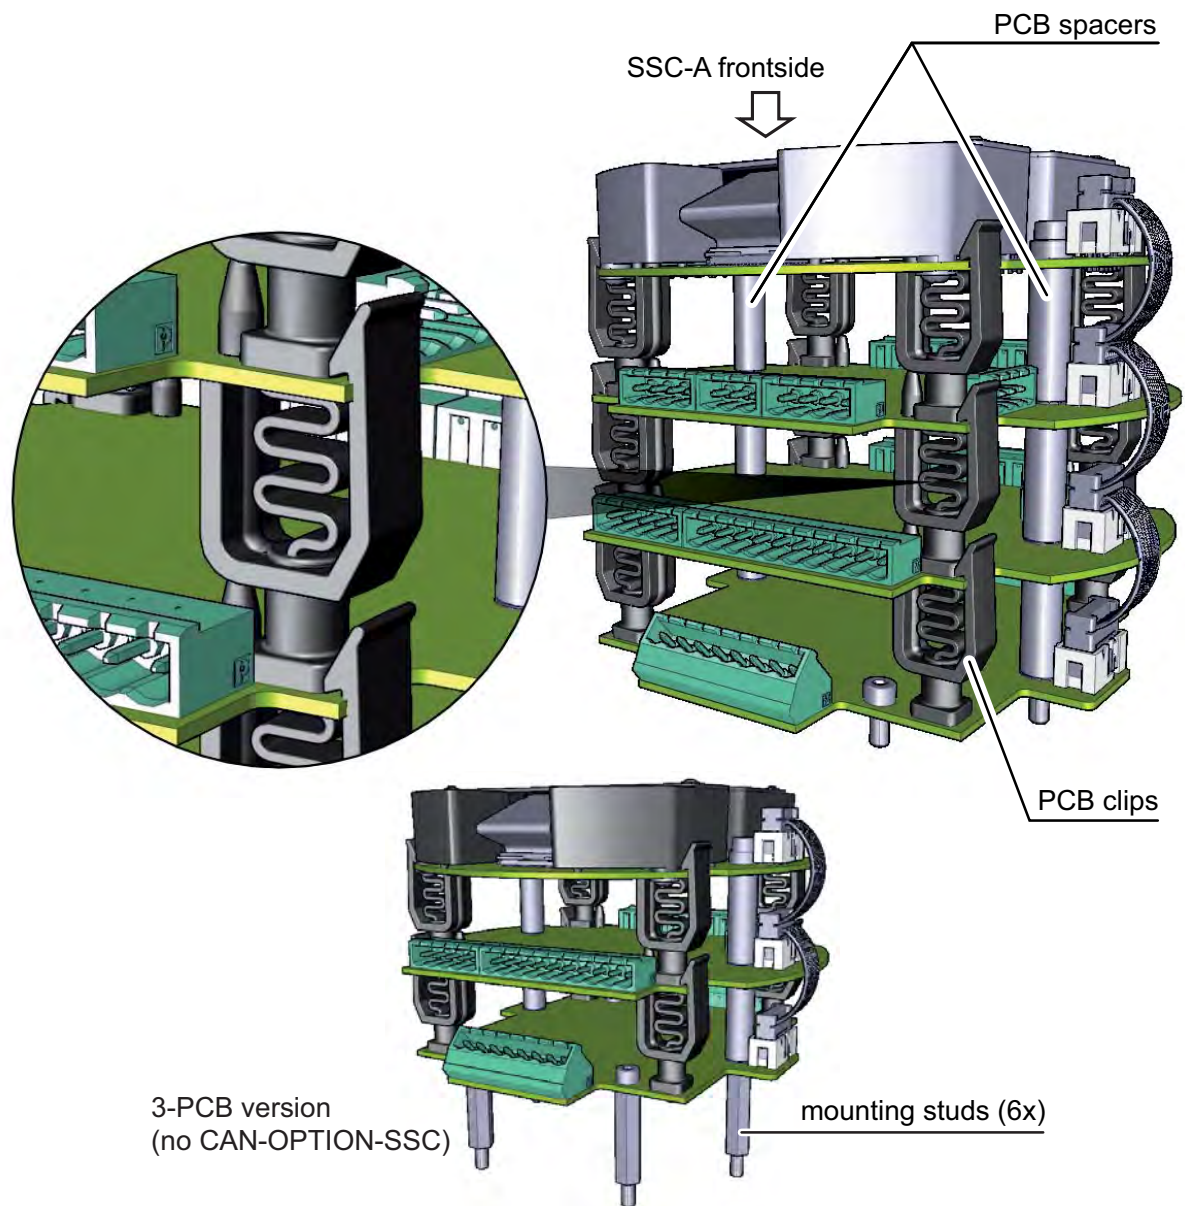

FIGURE 3-5
- The SSC-A version without CAN-OPTION-SSC has 4 extra mounting studs to compensate for the reduced board assembly height. See FIGURE 3-5.